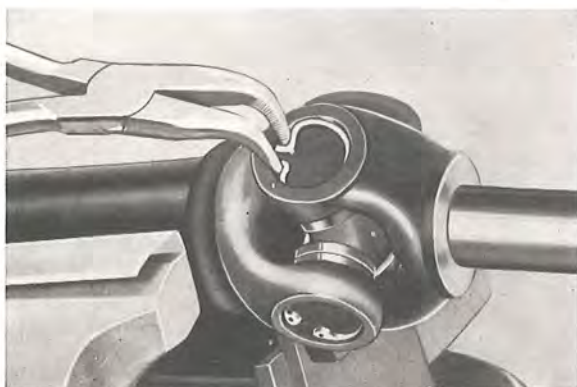

Fig. 4-125. Removing the snap ring
1. Remove the snap rings securing the needle bearings in the yokes, see Fig. 4-125.